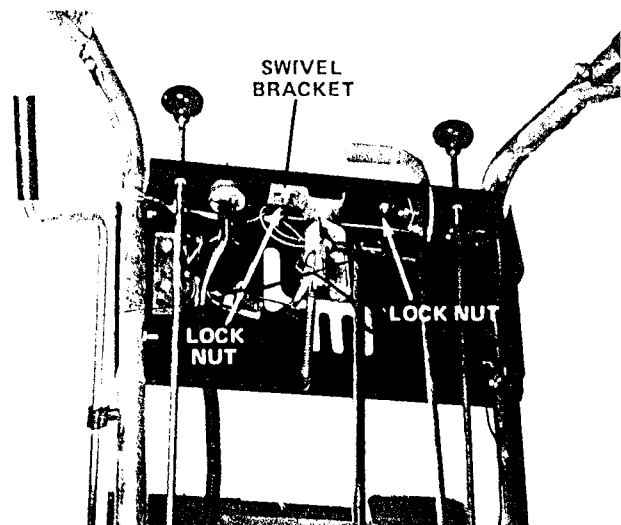

Figure 38
1. Loosen two cap screws and lock nuts holding swivel bracket against control panel (Fig. 38).
2. To reduce ground speed, move swivel bracket (Fig. 38) to the right. By contrast, move swivel bracket to the left to increase speed in 1st gear.
3. When desired adjustment is obtained, tighten the two cap screws and lock nuts (Fig. 38).